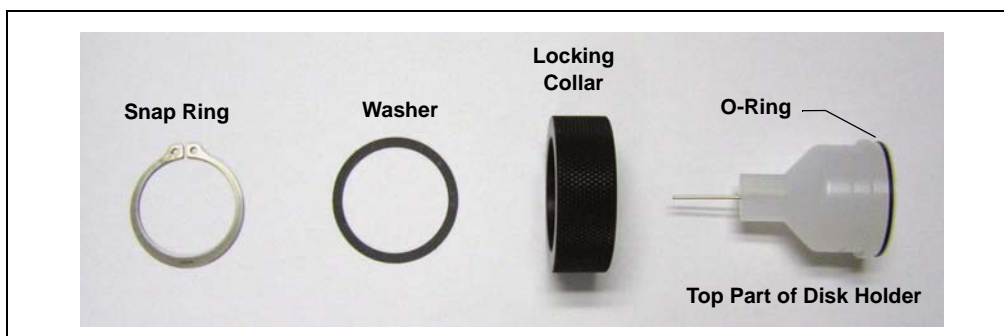

Figure 5-1. Top Part of Disk Holder, Unassembled
6. Remove the snap ring holding the locking collar and large washer to the top (white polymer) part of the disk holder (see Figure 5-1).
7. Remove the O-ring from the top part of the disk holder (see Figure 5-1):